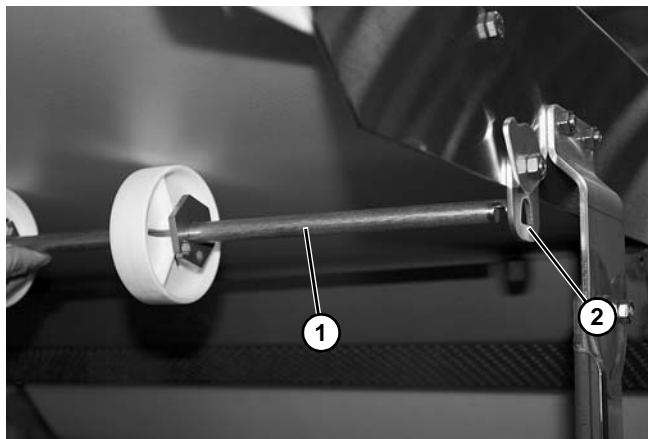

Figure 132
2. Remove belt return assembly (Figure 132, item 1) from return brackets (Figure 132, item 2).